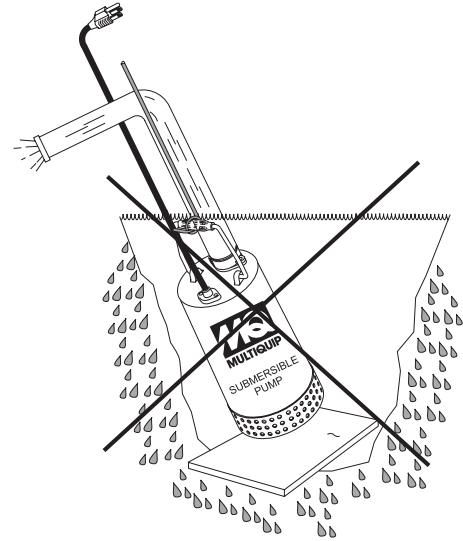

Figure 9. Submersible Pump Upright Position (Incorrect)
2. Make sure the pump is always placed in an upright position, not tilted (Figure 9). Never position the pump directly on a soft, loose bottom. Remember to attain maximum pumping capacity and prevent excessive wear, position the pump so it will not burrow itself into sand or clay.